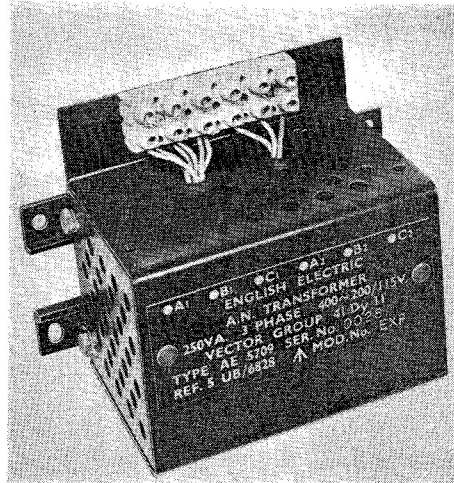

Fig. 1. Transformer, E.E. Type AE 5709
1. The Type AE 5709 transformer (*fig. 1*) is a three-phase double-wound, naturally cooled transformer. It is rated to supply a load of 250 VA of unity power factor at 115-volts, when the primary is supplied with 200-volts at 400 c/s.